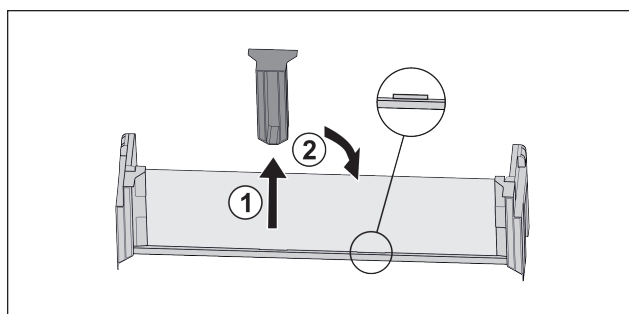

Fig. 17
- Pull off the middle holder Fig. 17 (1).
- Insert the middle holder in the second position Fig. 17 (2).